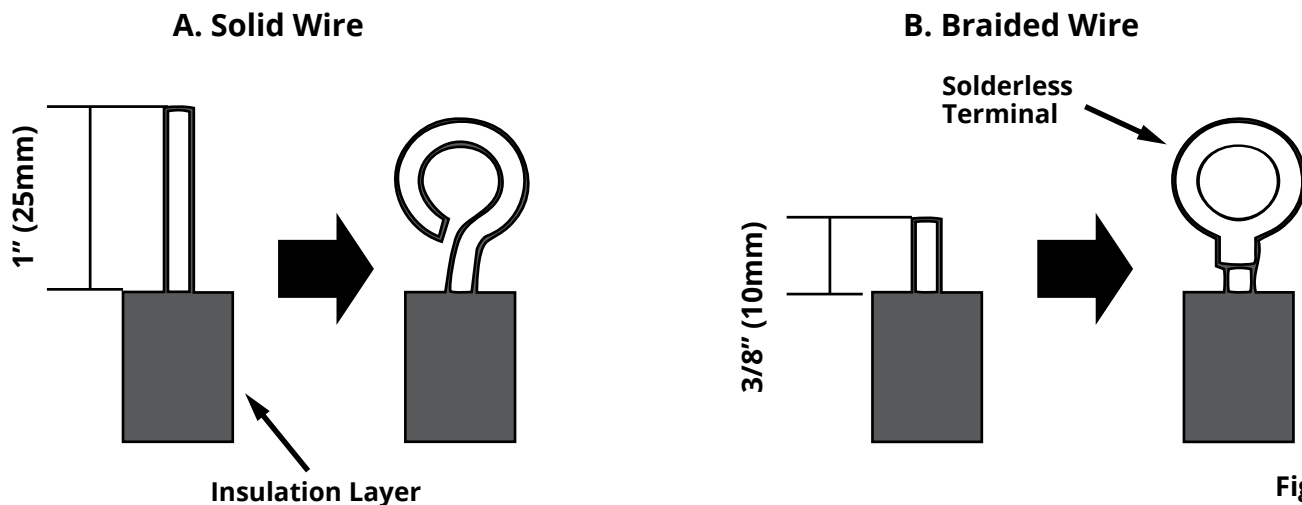
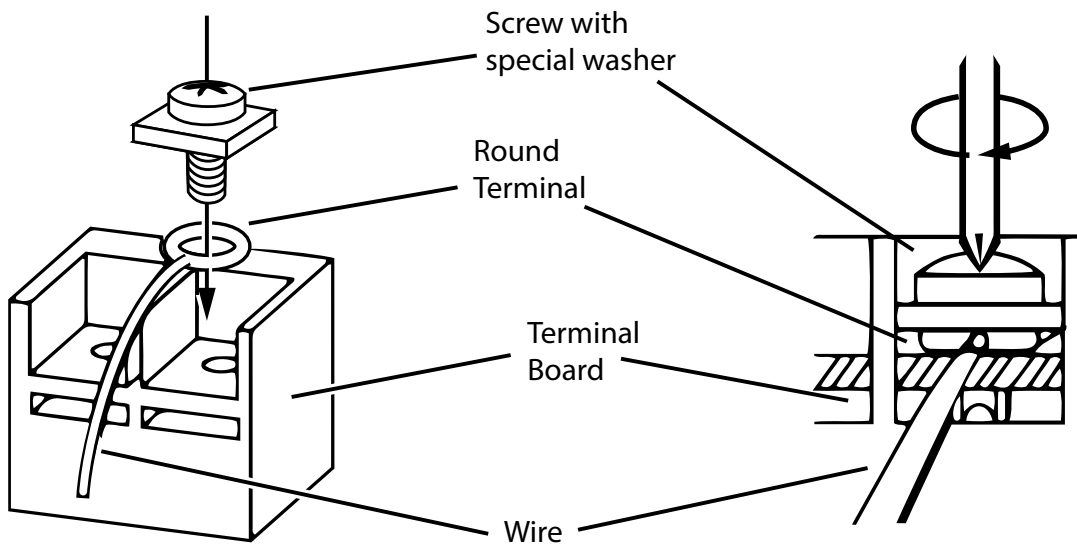

Fig. 2.26
Fig. 2.27
For solid wires (Refer to Fig. 2.26 A):
For braided wires (Refer to Fig. 2.26 B & Fig. 2.27):
4. Locate the round terminal conduit. Use a screwdriver to replace it and tighten up the terminal screw (as shown in Fig. 2.27).